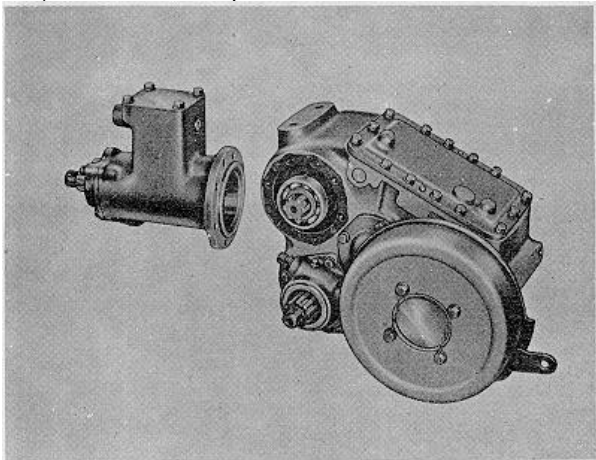

Fig. 43.
45. Install power-take-off assembly over a new gasket (Fig. 43). Secure with capscrews and lockwashers.